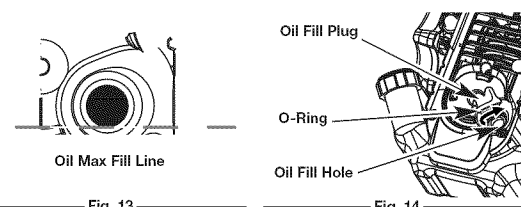
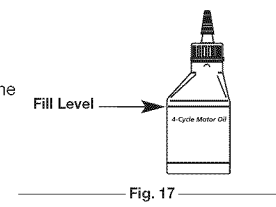

Fig. 13
Fig. 17
5. Look into the oil fill hole, use a flashlight if needed. The oil should be just touching the inner most thread (Fig. 13).
NOTE: Use the bottle and spout saved from initial use to measure the correct amount of oil. The top of the label on the bottle measures approximately 3.04 fl.oz. (90 ml) (Fig. 17). Check the level. See *Checking the Oil Level*. If the level is low, add a small amount of oil and recheck. Do not overfill (Fig. 13).